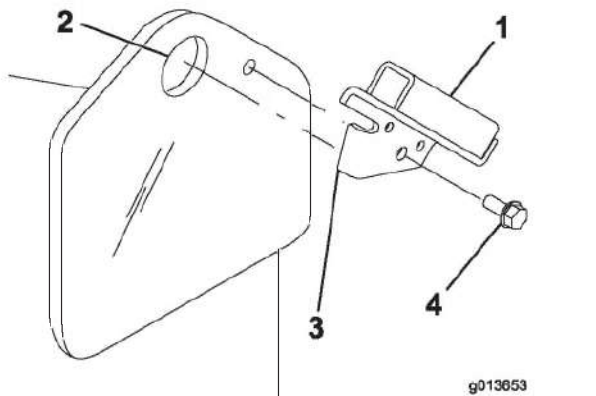

Figure 3
1. Insert the tab on the shield bracket into the lift-point hole on the traction unit, with the hole in the bracket aligning with the small hole in the traction unit frame (Figure 3).
Note: There is a right and left bracket. Ensure that you install the correct bracket on each side. The tab should be in the lift-point hole and the bracket should be on the outside of the frame (Figure 3).
2. Secure the bracket to the frame with a self-tapping screw (Figure 3).